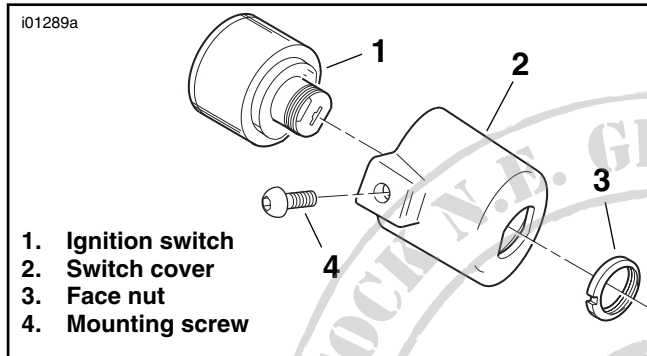

Figure 1. Ignition Switch Cover Installation
1. See Figure 1. Remove the ignition switch face nut (3).